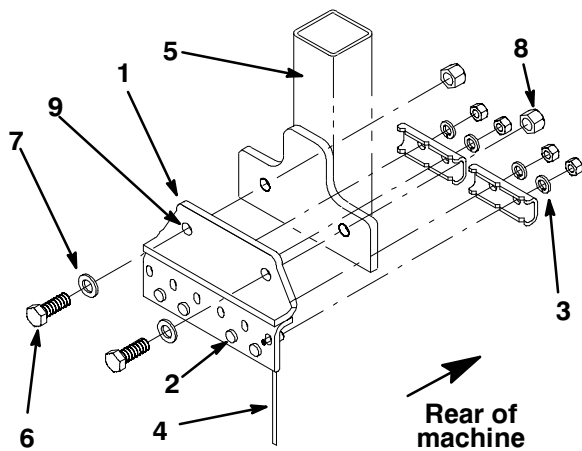

Figure 1
1. Insert (6) needle tines into holes in each tine head as shown in figure 1.
2. Slide (2) clamps over tines and onto mounting studs (Fig. 1).
3. Secure clamps to tine head with (4) lockwashers and nuts (Fig. 1). Torque the nuts to 60-70 ft-lb (85-95 N•m).
**Note:** If mounting the tine head to MultiCore Model No. 09697, 09698, or 09699, you will need parts listed in the table below which are not included in this kit. Press the spacers into the tine head mounting holes (Fig. 1) and use the fasteners stated in the table to mount the tine heads to the tine arms. Torque to 60-70 ft-lbs (85-95 N•m).
4. Mount the tine heads to the tine arms with (2) M16 x 45mm capscrews, flat washers, and lock nuts (Fig. 1). Torque to 155-180 ft-lbs (205-245 N•m).